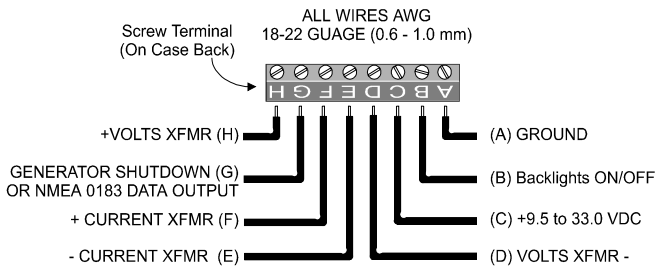

Figure 2
● Check all your wiring against those shown in Figures 2 and 3. If wired correctly, mount the VAF-60 in the instrument hole. Be sure the bulkhead gasket is in place and use only finger tension to tighten the bracket hold-down nuts. Do not overtighten the bracket or you may damage the case.
- Bring the voltage and current transformer wires, ground and power lines, etc. out of the mounting hole and use a small flat screwdriver to make the connections to the screw terminal on the instrument case back as shown in Figure 2 and Figure 3.